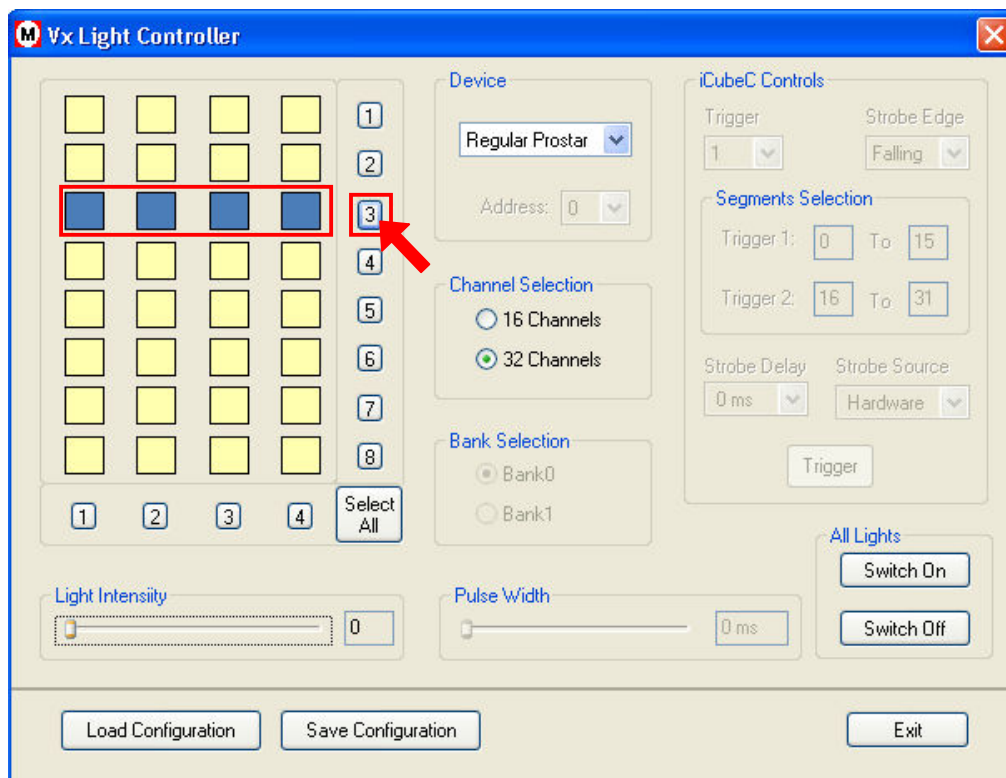

Fig 4.12: Selecting all channels of Controller 3
- If the requirement is that all the channels are to be selected for a particular Controller, then click the corresponding button number of channel for that controller. Refer Fig.4.12